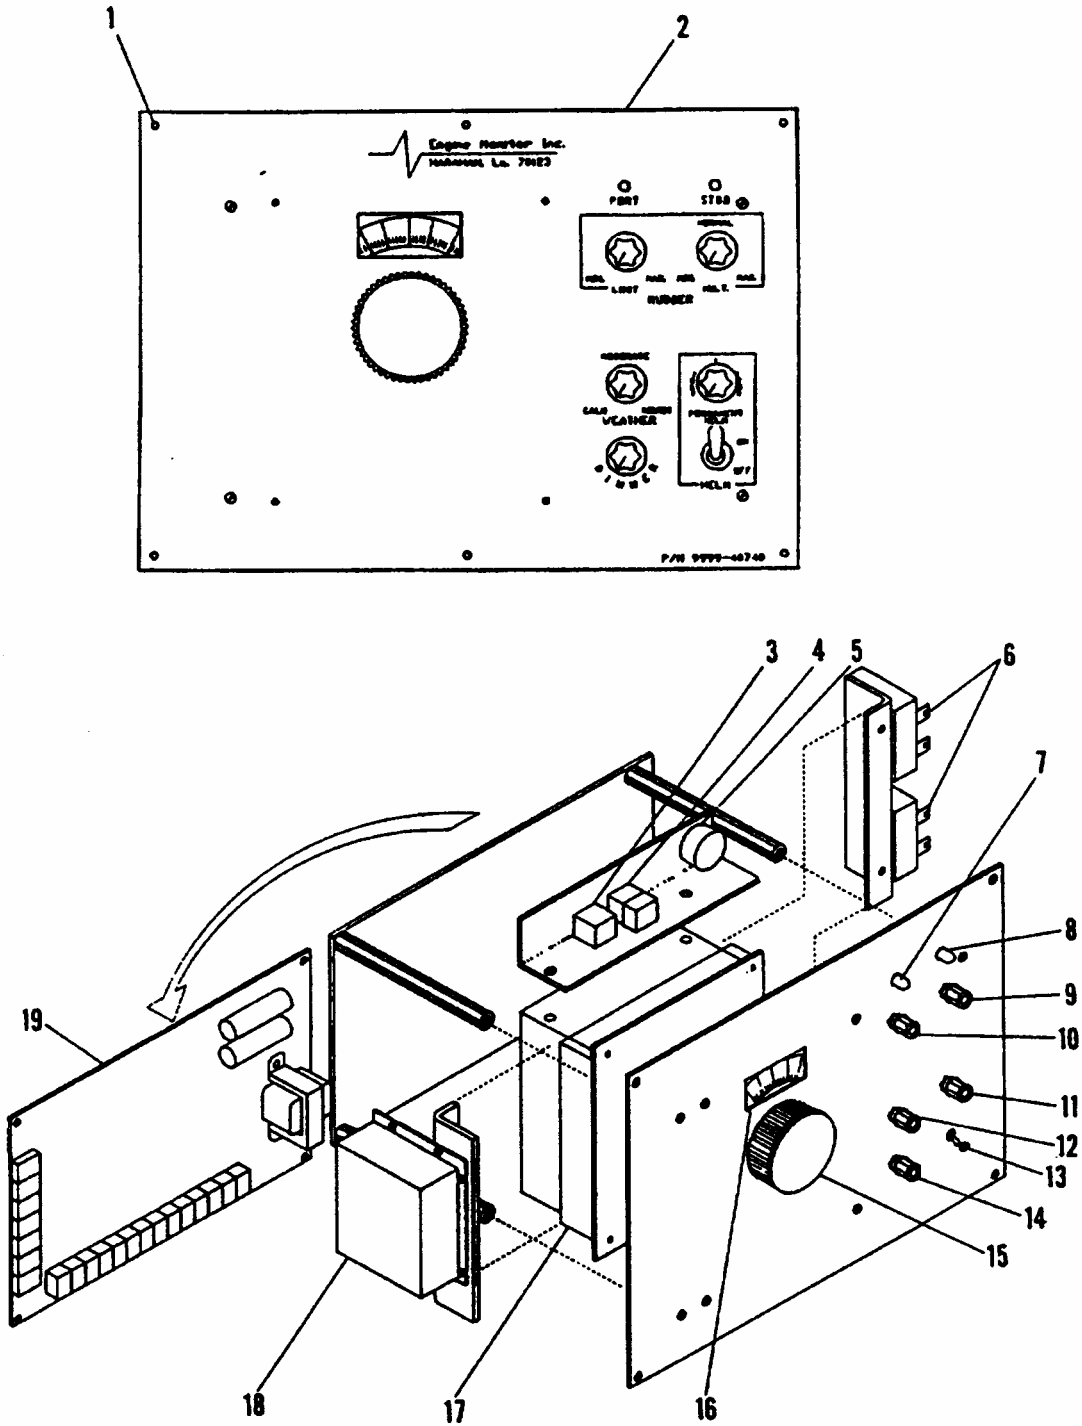

Figure 3-104.1. Autopilot Unit
**3-117.1. Replace/Repair Autopilot Panel Assembly (Figure 3-104.1)**
- h. Install potentiometer (12) and knob.
- i. Install potentiometer (11) and knob.
- j. Install potentiometer (10) and knob.
- l. Install the red L.E.D. (7) and green L.E.D. (8).
- m. Install the two relays (6).
- b. Secure with four screws (1).
- d. Close access panel (2, Figure 3-104.1).
- e. Fasten two latching screws (3, Figure 3-104.1) securing access panel (2, Figure 3-104.1) to pilothouse control console (1, Figure 3-104.1).